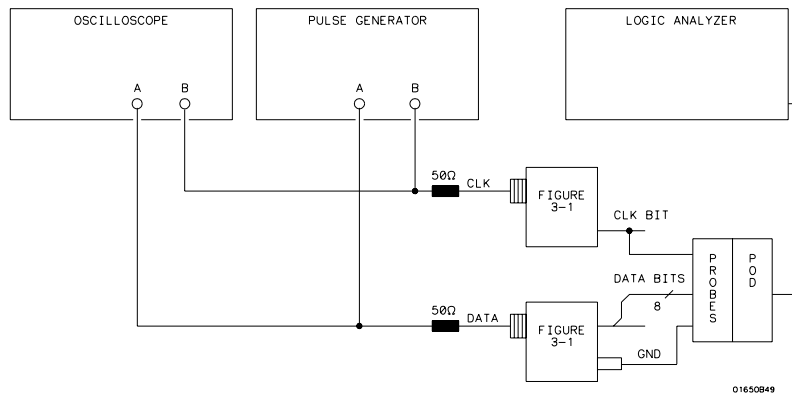

Figure 3-14. Setup for Data Test 3
- Press **RUN**. The **State Listing** is displayed and lists all 0s for the channels under test, if passed test, as in figure 3-14.